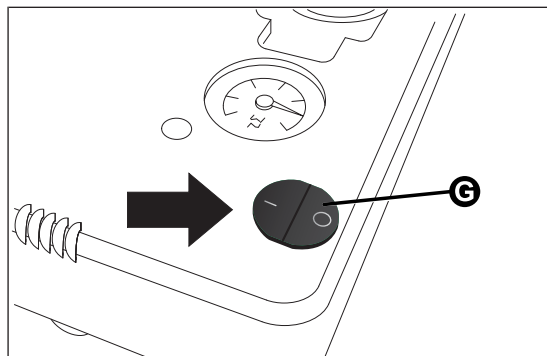

fig. 106
- ☐ make sure that the switch G fig. 106 is in position **0** (off), then start the engine;